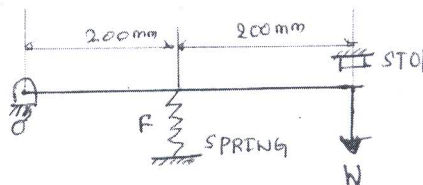

Fig. Q3 (b)
- b. A spring controlled lever is shown in Fig. Q3 (b), the spring is to be inserted with an initial compression to produce a force equal to 125 N between the right end of lever and stop. When the maximum force at 'A' reaches a value of 200 N the end of the lever moves downward by 25 mm. Assume the spring index as 8, find (i) Spring rate (ii) Size of wire (iii) Outside dia of spring (iv) Number of active coils (v) Free length (vi) Pitch.